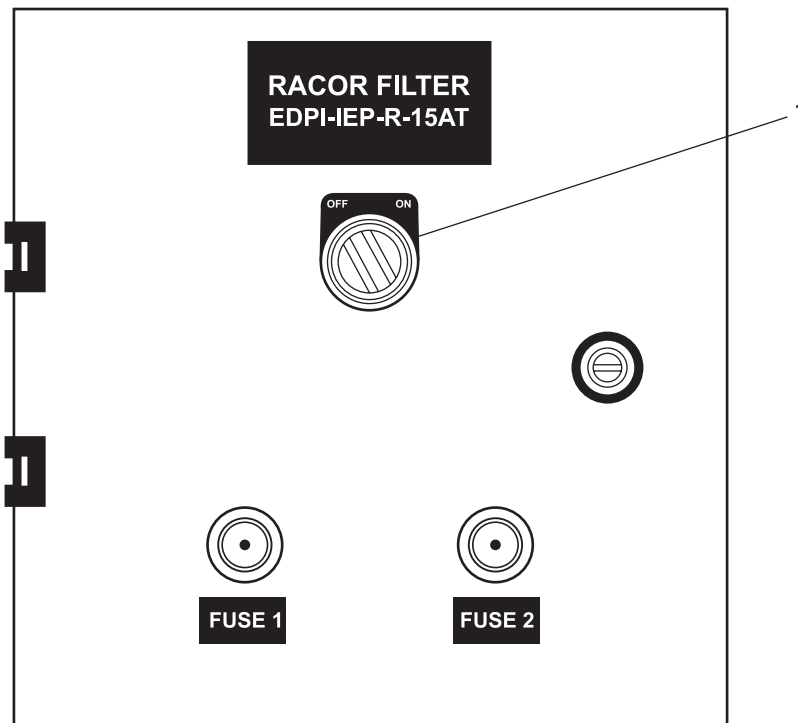

Figure 2. Fuel Filter/Water Separator Filter Control Panel
2. At the fuel filter/water separator control panel, set the OFF/ON (figure 2, item 1) switch OFF.